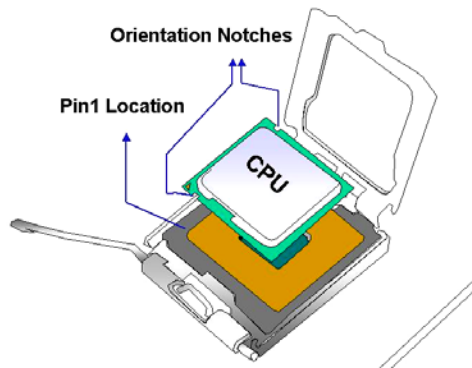

Figure 0-4: Insert the Socket LGA775 CPU
Step 7: Insert the CPU. Gently insert the CPU into the socket. If the CPU pins are properly aligned, the CPU should slide into the CPU socket smoothly. See **Figure 0-4.**